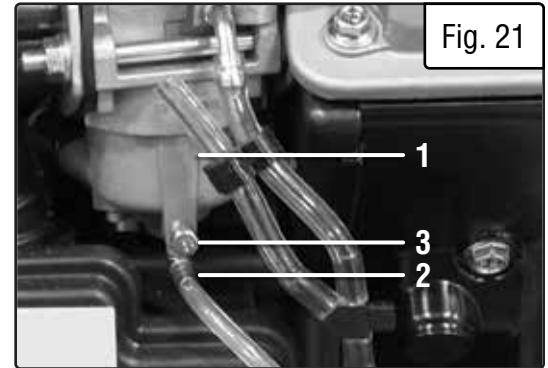

Fig. 21
4. Locate the carburetor (Fig. 21 - 1) and the clear drain tube (Fig. 21 - 2).
6. Open up the carburetor drain screw (Fig. 21 - 3) with a Phillips-head screwdriver and drain out any gasoline that has built up inside the carburetor through the drain tube into the approved gasoline-storage container.
2. Locate the carburetor (Fig. 21 - 1) and the transparent drain tube (Fig. 21 - 2) from the carburetor that extends down through the bottom of the generator.
4. Use the screwdriver to loosen the drain screw (Fig. 21 - 3).